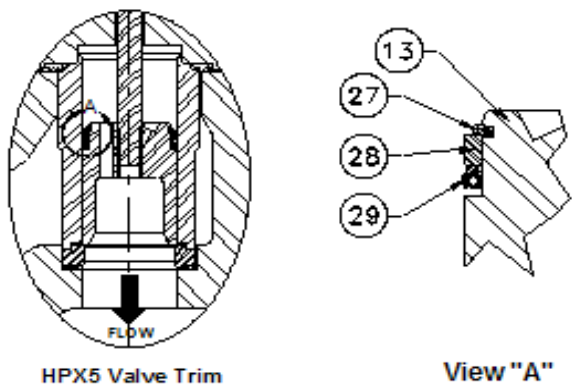

Figure 5 - Design HPX5 Trim
- 3.1. Install for flow-down applications (see Figure 5, view A), install the ring with the open side facing the seat ring end of the valve plug.